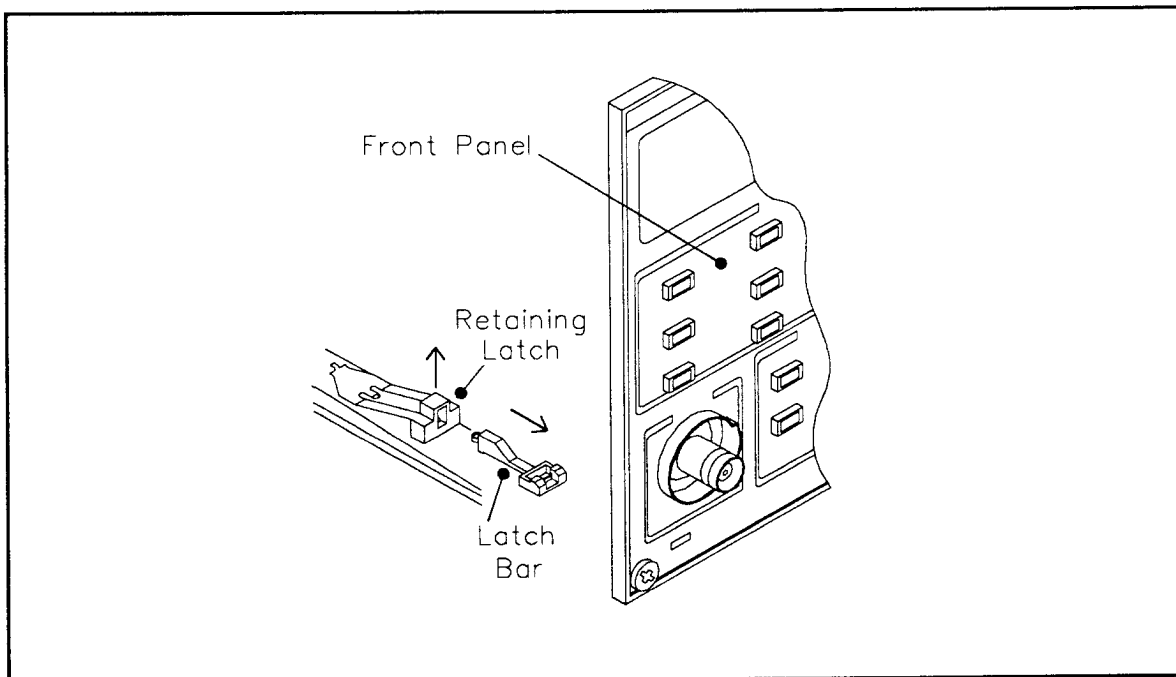

Figure 5-10. Removal of Retaining Latch.
5. Push the retaining latch up past the retaining clip, as shown in Figure 5-10, and pull the latch out.